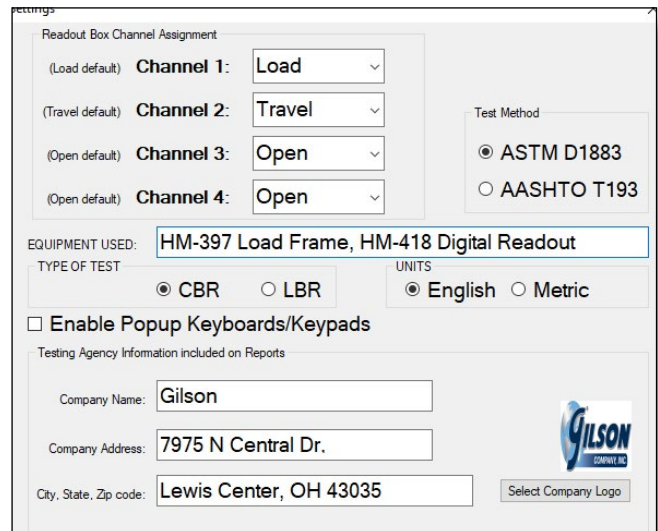

Figure 4: Program settings
3. Eject the USB containing installation files and insert the USB security key. Open the CBR/LBR Software. Click **Help** along the toolbar (Figure 4) then select **Activation** from the drop-down menu. Enter the provided license number, USB ID, and activation code. The software will run normally for 30 days before this information is required to continue use. Activation information can be entered at any point within the first 30 days after installation.
The top toolbar (Figure 4) of the Software consists of icons used to start, open, save and create test reports. These commands are also listed under the **File** dropdown menu.
The application settings (Figure 4) can be found under the “Utilities” dropdown menu on the top toolbar. Test type, testing agency and equipment information can be entered here, in addition to selecting testing units and enabling/disabling popup keyboards. Popup keyboards are helpful when using a touch screen operated device. This information will be displayed on the report generated at the completion of a test. These settings remain saved for future testing. There is no need to reenter these settings when opening the program or starting a new test.
1. In the application settings (Figure 4), confirm that the appropriate test, CBR or LBR, is selected then **Save & Close** the settings window.